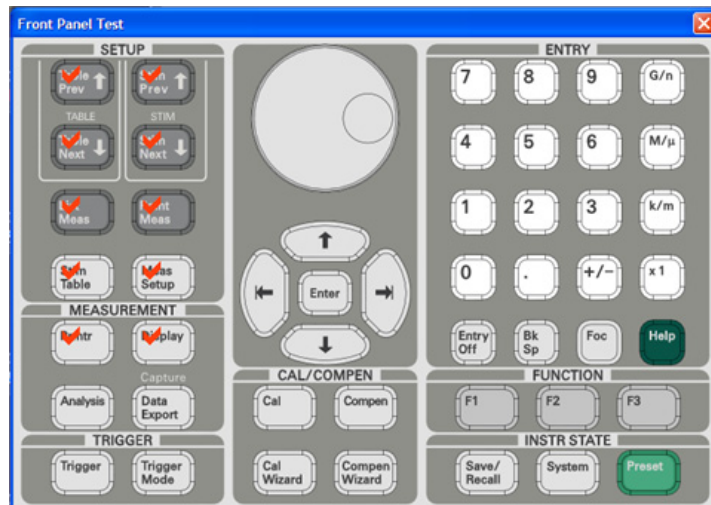

Figure 26 Front Panel Test window 2/2
Step 3. Press the front panel keys. Red ticks will appear on the Front Panel Test window whenever the corresponding key on the front panel is pressed as shown in **Figure 26**. Turn the rotary knob clockwise or counterclockwise. Red ticks will appear on the left of the rotary knob on the Front Panel Test window when you turn counterclockwise and on the right of the rotary knob when you turn clockwise.